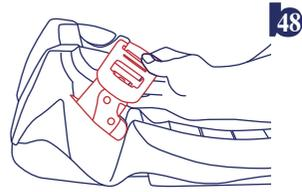
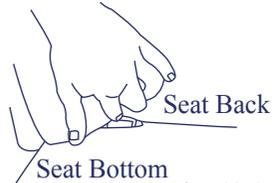
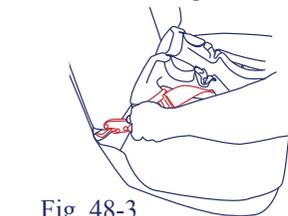

Fig. 48-1
Fig. 48-2
Fig. 48-3
- 15.2.1) Remove the Safety Seat from the base by squeezing the base release handle located under the center of the foot end of the Safety Seat and lifting upward on the Safety Seat (See Figure 28-1). **Store both LATCH connectors as shown in figure 48-1.**
15.3.3) Remove the LATCH connectors from their storage position inside the base (Fig. 48-1). Place the Base in the rear-facing position in a forward facing vehicle seat as shown in figure 48-3. **The Child must face the rear of the vehicle and Safety Seat must be placed in a vehicle seat that faces forward.**
15.3.4) Locate the LATCH anchors in the vehicle seat. (Fig. 48-2) Once located, snap the Safety Seat LATCH connectors onto the steel rod. Listen for the click and check that both connectors are firmly attached to the anchor rods by pulling outward on the connectors. Please see figure 48-3.